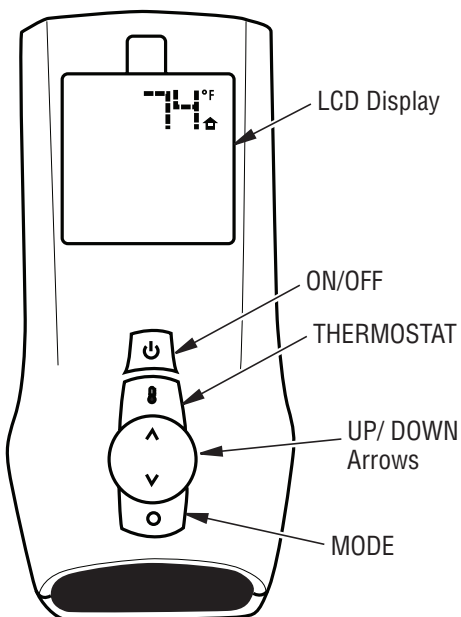
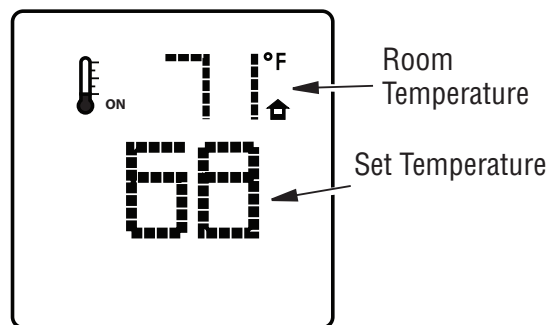

Figure 37 - Hand-Held Remote Control
Figure 39 - Room Temperature Setting
11. Select manual flame height function by pressing MODE button on remote until a flame is shown in lower left corner of display. Use the UP/DOWN arrow button to set desired flame height (see Figure 37, Page 20).
This function allows you to control the height of the flames through 5 levels. Select manual flame height function by pressing MODE button until a flame is shown in lower left corner of display. Use the UP/DOWN arrow button to set desired flame height (see **Figure 37**). A beep from the receiver confirms the command.
Push ON/OFF button and burners will come on in high position (see **Figure 37**). A beep from the receiver confirms the command.
To activate, press THERMOSTAT button on remote control (see **Figure 37**). The word ON will appear to the right of temperature bulb graphic on display (see **Figure 39**). Use UP/DOWN arrow button to set desired room temperature. Control system will cycle fireplace on or off to maintain selected temperature.